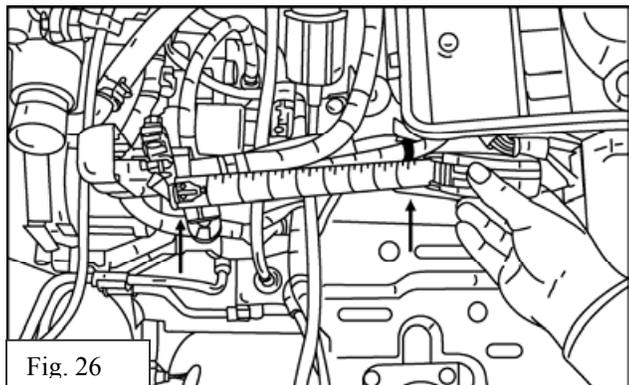
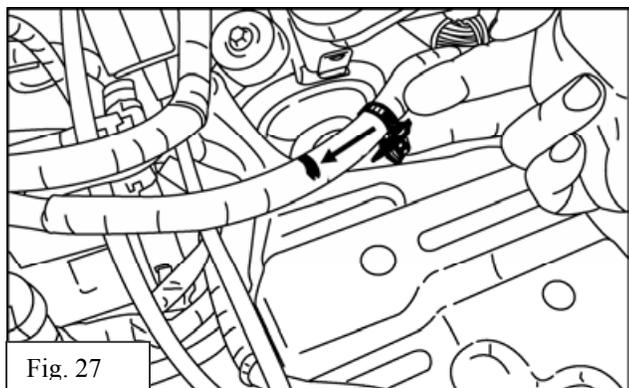

Fig. 26
Fig. 27
- (o) With a suitable ink pen, mark Battery cable approximately 6 to 7 inches from post terminal end of cable (Arrows). This will be the new location of the OE cable retainer. See Fig 26 and Fig 27.
- (p) Remove OE cable retainer. Install TRD supplied cable retainer at new location (Arrow) as shown in Fig 27.